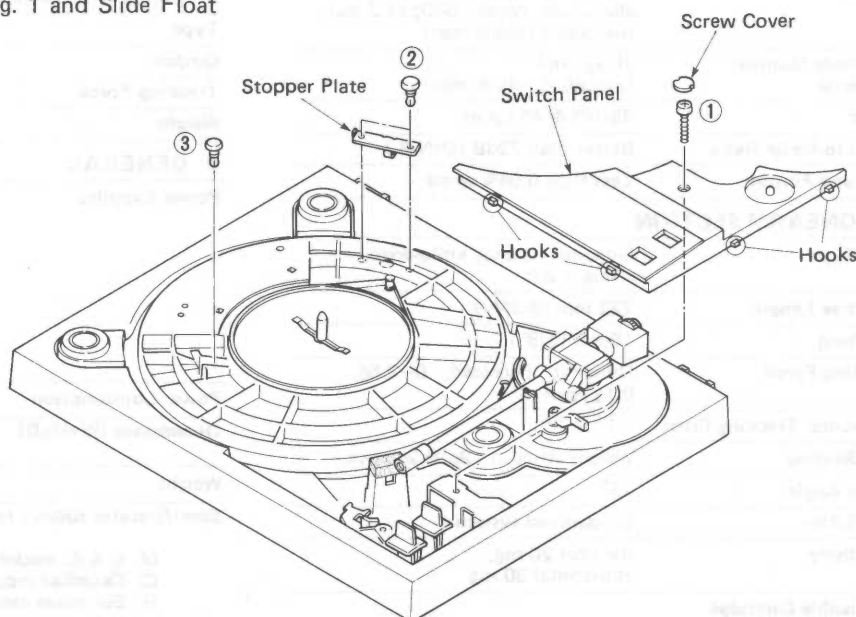

Fig. 1
1. Removal of Float Panel (A)
- b. Remove screw (①) in Fig. 1.
- c. Release 4 hooks in Fig. 1, and then remove the Switch Panel.
- d. Remove 2 plastic rivet (②) in Fig. 1, and remove the Stopper Plate.
- e. Remove plastic rivet (③) in Fig. 1 and Slide Float Stopper inside.